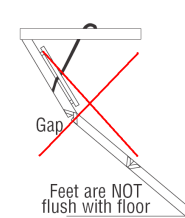

Figure 7
- If the attic ladder looks like Figure 7 (below), then both of the legs are too long, and the Attic Ladder is not safe to use. (Check trimming procedure again, on Page 5).